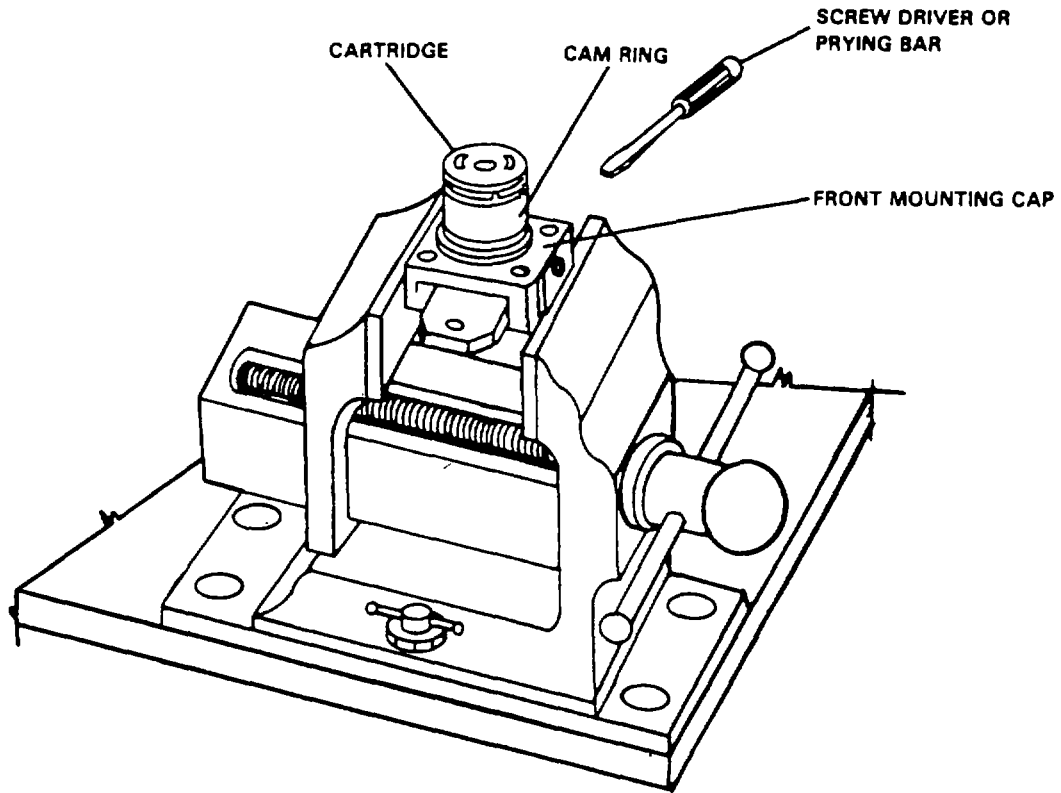

FIGURE 4-39. Unitized Cartridge.
- d. Firmly grasp unitized cartridge assembly (9) and, while using a rotating motion, pull outward and remove cartridge from front mounting cap (1). It may be necessary to hook a gear puller, prying bar or screwdriver under cam ring (see FIGURE 4-39), to extract cartridge assembly. Place cartridge assembly on a flat surface for cleaning and inspection. Remove remainder of pump assembly from vise and store in a secure area.